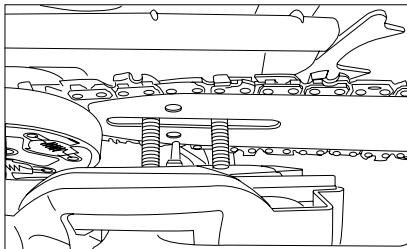

Fig. 9
9. Replace the chain guard and chain brake shield so that the bolts fit into the holes provided and the chain tensioning pin fits into the lower hole in the bar (fig. 9).